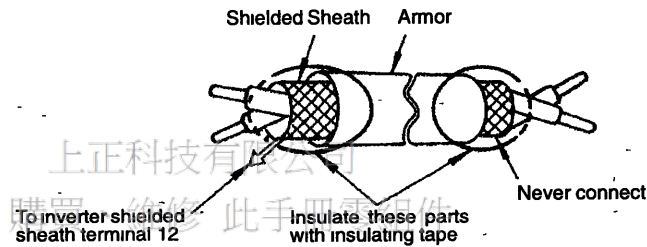

Fig. 12 Shielded Wire Termination
(2) Precautions on Control Circuit Wiring
- Use twisted shielded or twisted-pair shielded wire for the control circuit line and connect the shielded sheath to the inverter terminal 12. See Fig. 12. Wiring distance should be less than 50 m.